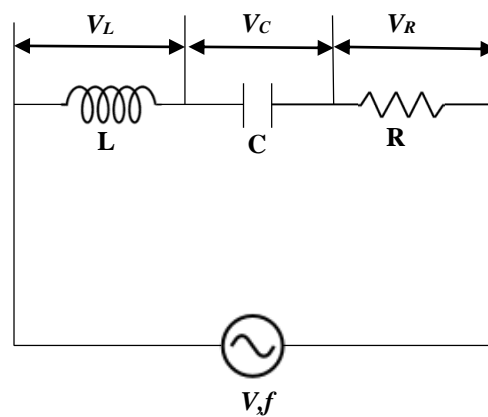

Figure 5.1.
As shown in Fig.5.1, in a circuit consisting of a resistor (R), inductor (L) and capacitor (C) in series with an AC power supply, the current equals to